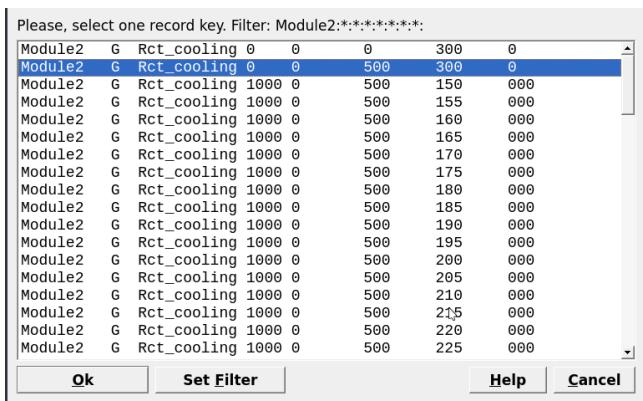

Figure 2.18: Select the parent record generated in ‘SysEq’ for your new ‘Process’ simulation.
- Switch to **Process**simulation mode and clone **Rct_path_2**. Select the **Rct_cooling** **SysEq** record (Fig. 2.18). Then call this new record **Cooling_150-300C** and select **P** for the simulation mode.